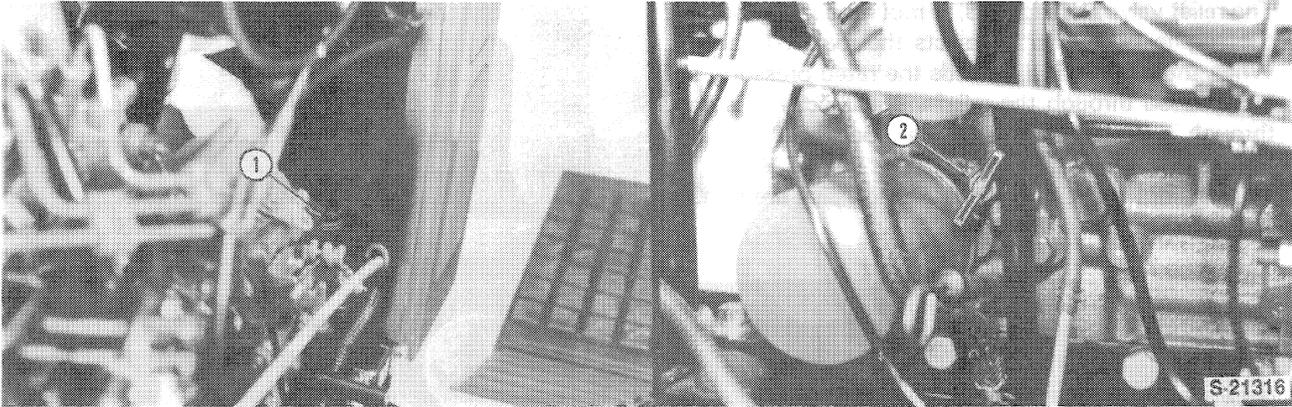

Figure 6
4. Drain the coolant from the radiator and engine block, Figure 6.